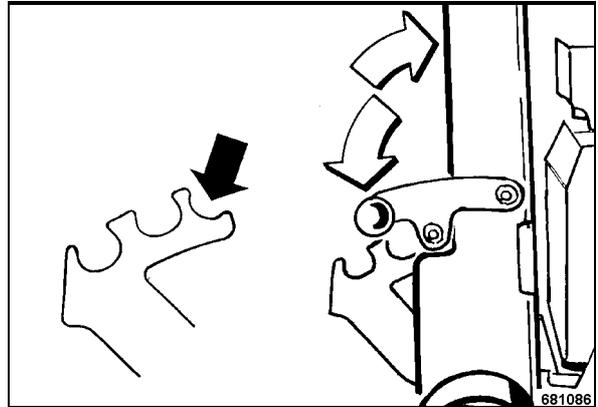

Fig. 75
- Adjust the steering rod (Fig. 75) in upright position and lock it in the last locking position of the detent rail.